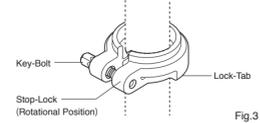

Fig. 3
Mounting the Seat for ROTATION (Fig. 3, 4)
1. Loosen the Key-Bolt and remove the Stop-Lock from the Center Post. Then reinstall it with the Lock-Tab facing down as shown (Fig. 3).